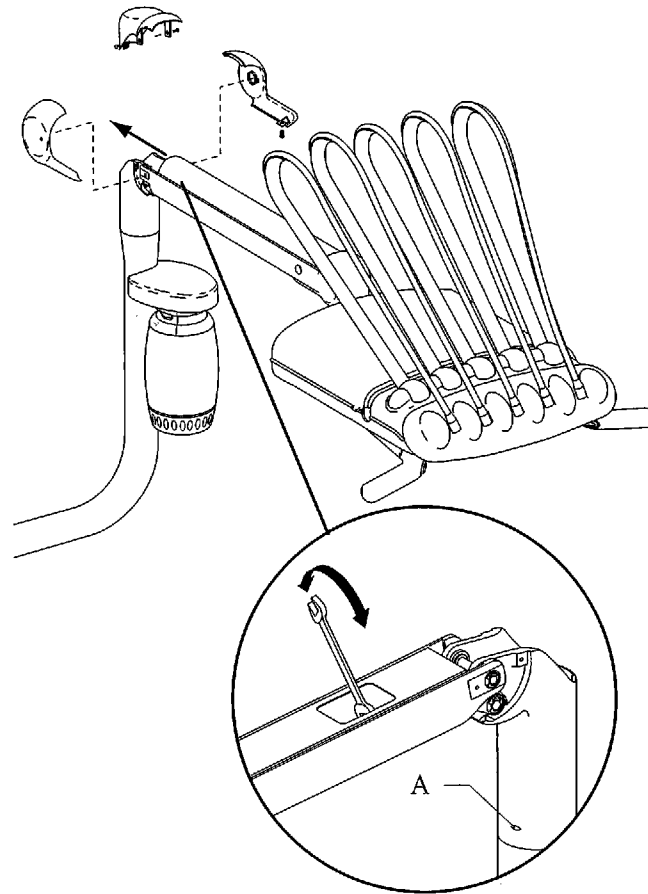

Figure 26. Adjusting the flexarm counterbalance. (A) setscrew
2. Remove the rear knuckle covers and slide the flexarm cover off the flexarm (see Figure 26).
5. Adjust the rotation tension on the flexarm by tightening the setscrew (see Figure 26).